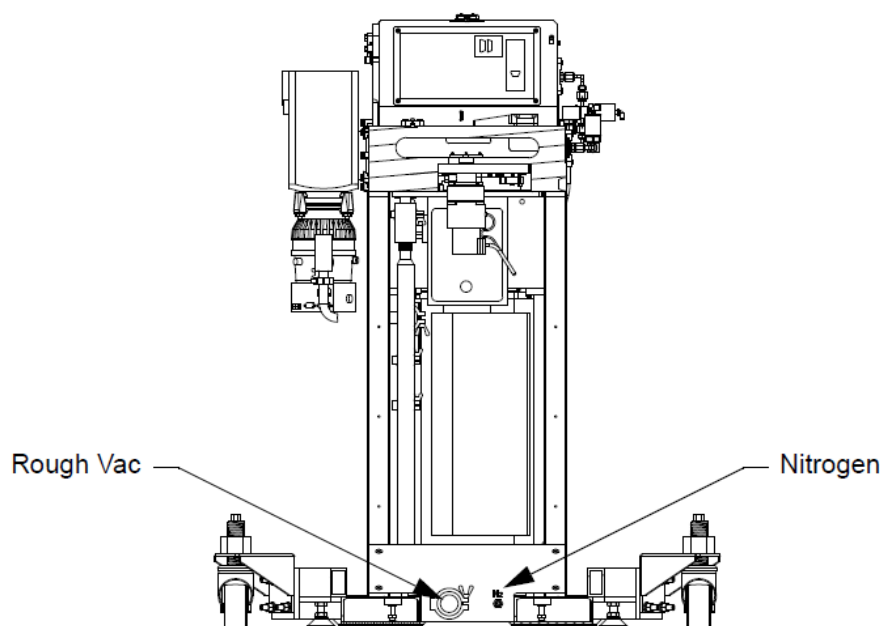

Figure 3-6: Gas and Vacuum Connections
1.	Connect the facility's rough-vacuum system to the Marathon Express 400, as shown in Figure 3-6 .